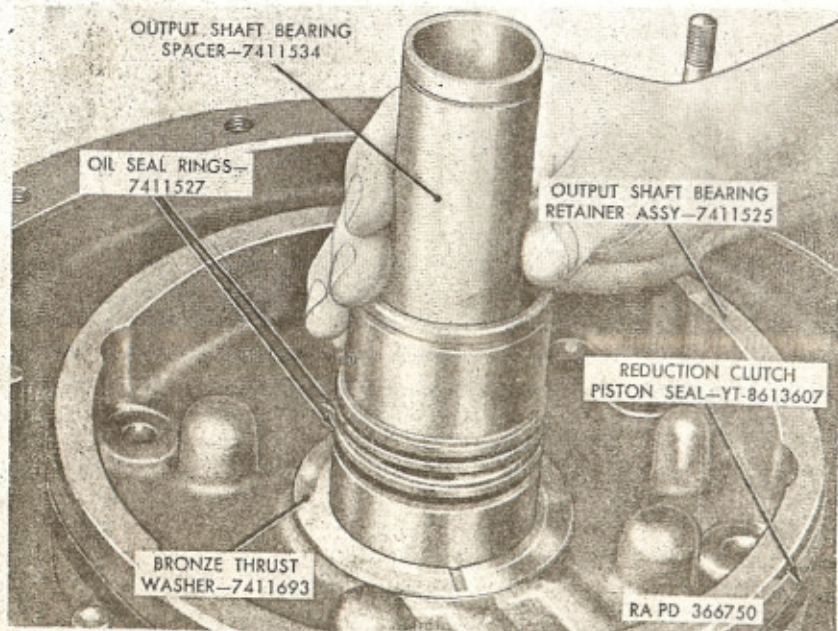

Figure 32. Removing or installing output shaft bearing spacer (303M).
h. Remove output shaft bearing spacer from output shaft bearing retainer (fig. 32).
i. Remove clutch drum thrust washer from hub of output shaft bearing retainer (fig. 32).